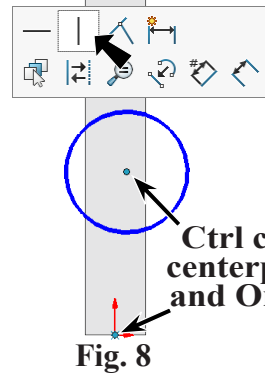
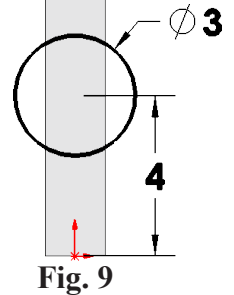

Fig. 8
Fig. 9
Step 6. **Ctrl click centerpoint of circle and Origin**  to select both. Release **Ctrl** key and click **Make Vertical**  on the context toolbar, **Fig. 8**.
Step 7. Click **Smart Dimension**  (S) on the Sketch toolbar.
Step 8. Add dimensions, **Fig. 9**.